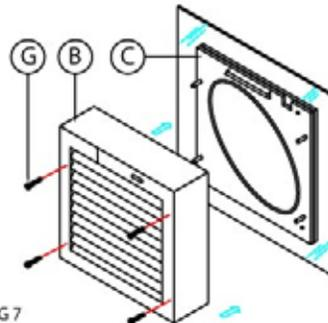

FIG 7
- 4.7 Place the body of the fan unit (B) in position and screw it to the inner clamp plate C using four 30 mm bolts supplied (G). (FIG 7)
- 5.7 Place the body of the fan unit (B) in position and screw it to the inner clamp plate (C) using four 30 mm bolts supplied (G). (FIG 7)